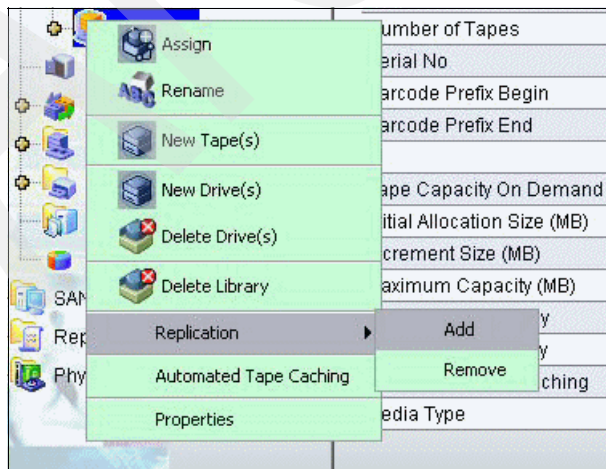

Figure 7-9 Enabling replication
1. As shown in Figure 7-9, right-click the virtual library that you want to enable for replication, and select **Replication** → **Add**.